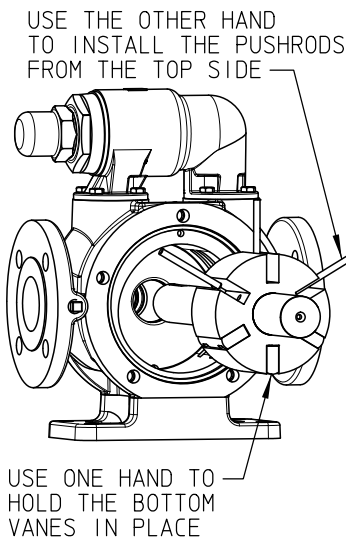

FIGURE 9
6. Coat the shaft with light oil. Install the pushrods and two or three vanes into the rotor as shown in **figure 9**.